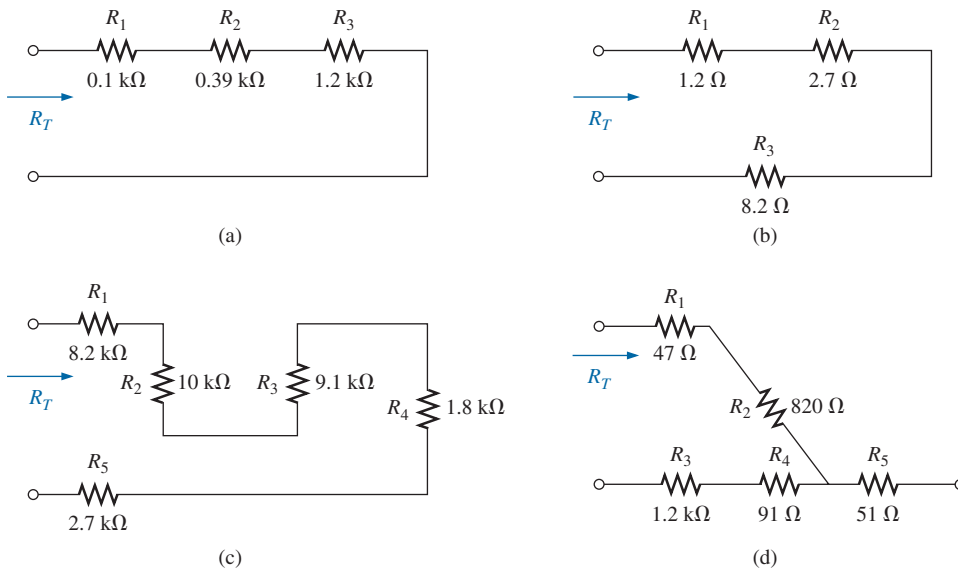

FIG. 5.86
- Find the total resistance R_T for each configuration in Fig. 5.86. Note that only standard resistor values were used.